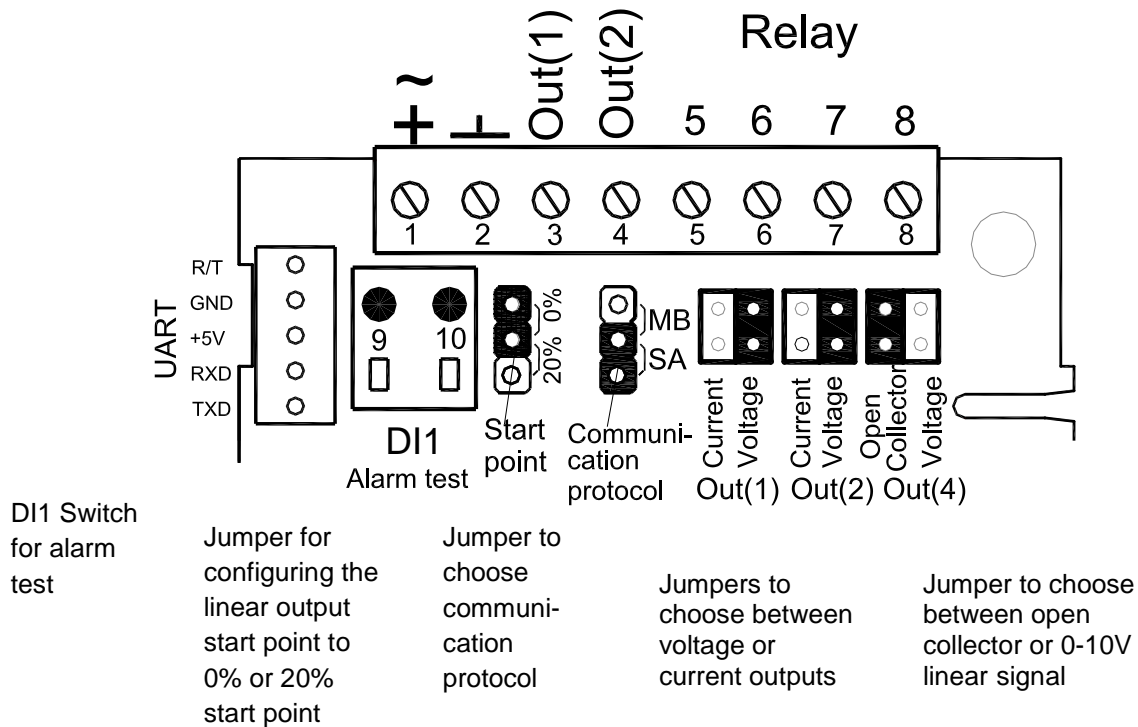

Fig. 3. Terminals and jumpers on CF8-W-Disp-CO. The darker positions are default settings.
1. **Dismount the wall plate.** The sensor is delivered with the wall plate mounted. The wall plate has to be removed before the sensor is mounted onto the wall. Unscrew the screw on the side of the box. See figure 3.
| Numbers in figure 3 | Label or marking | Function |